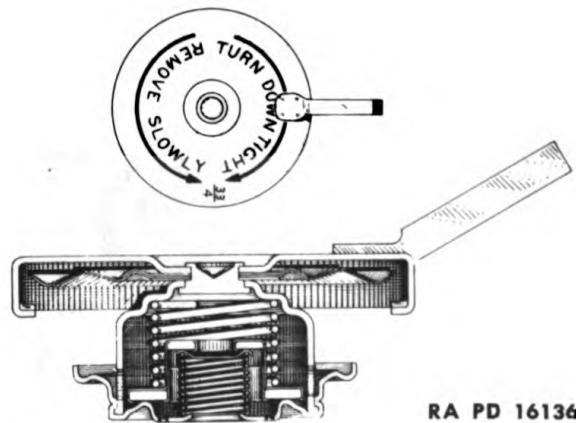

Figure 92—Overflow Tank Cap
(1) **Overflow tank sealing cap (Fig. 92).** This cap incorporates a spring loaded valve which maintains a pressure of $3\frac{1}{4}$ to $4\frac{1}{4}$ pounds in cooling system when engine has reached normal operating temperature. This increase in pressure raises boiling point of cooling liquid and permits a slightly higher operating temperature which results in improved engine performance and economy without the danger of over-heating.